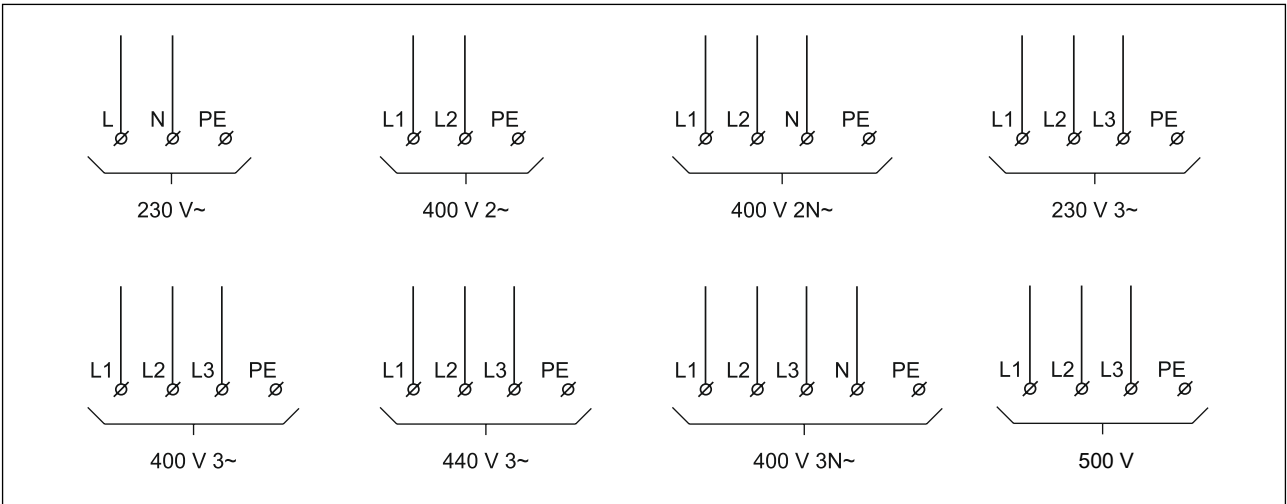

fig. 14
Figure 14 shows the connection of the power supply to the heater. The heater must be connected in accordance with the rated data on the type plate. The protective earth (PE) must always be connected. The power supply installation must comply with applicable regulations.